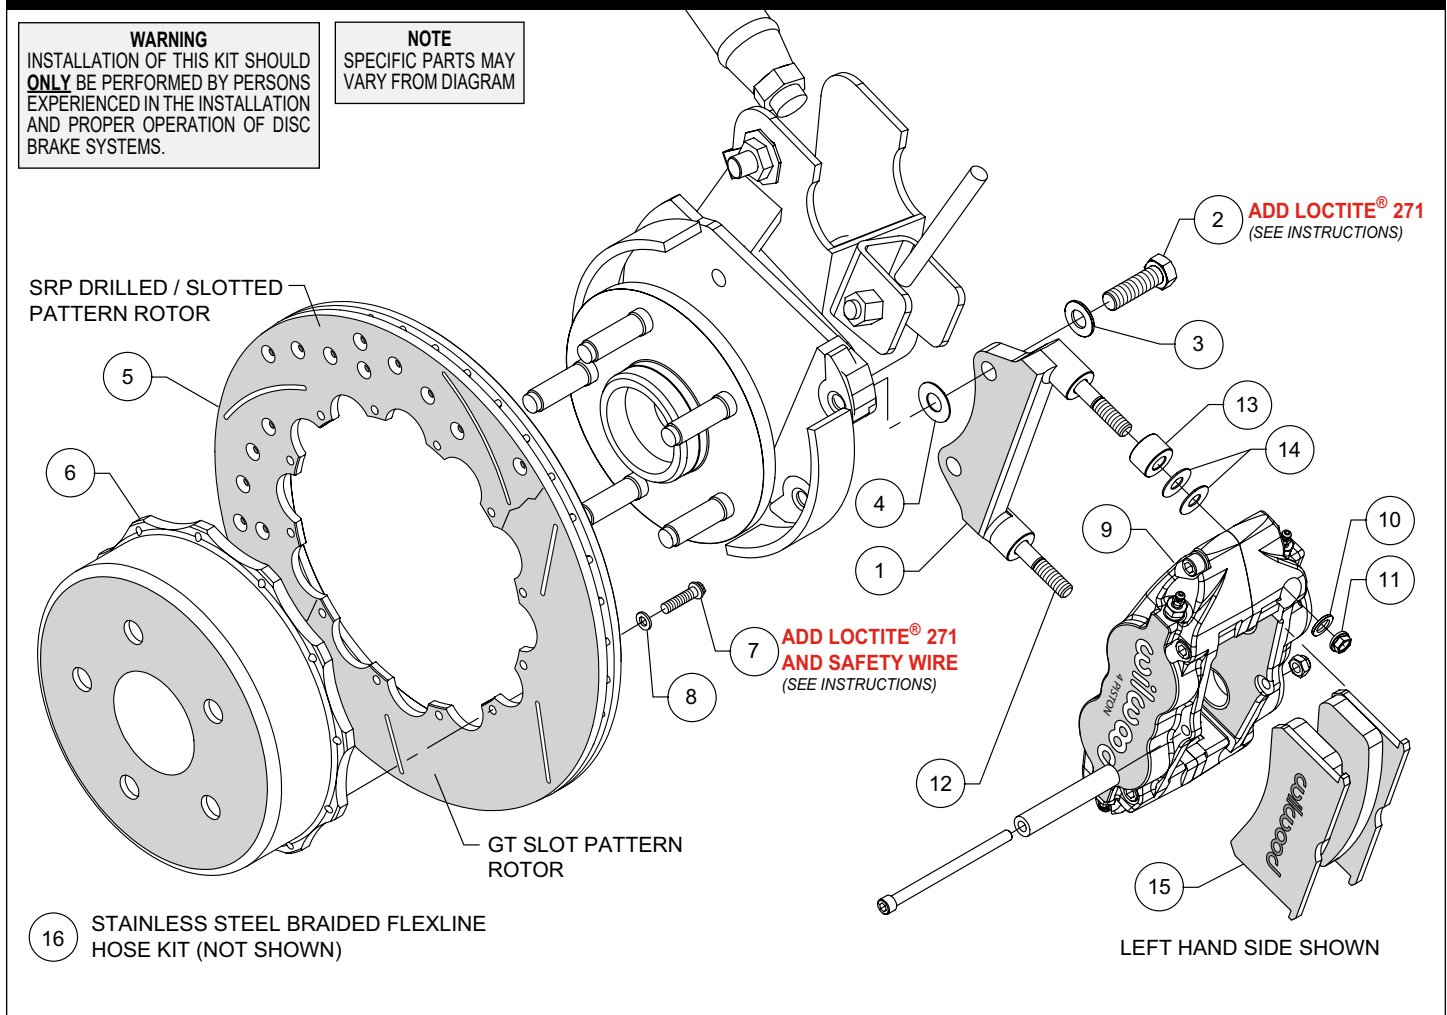
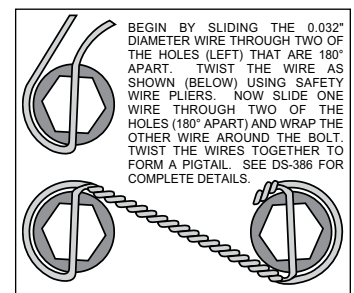

Figure 1. Typical Installation Configuration
Figure 3. Safety Wire Diagram
Assembly Instructions (numbers in parenthesis refer to the parts list and Figure 1 on the preceding pages):
- The caliper mount bracket (1) should initially be installed with clean, dry threads on the mounting bolts. Orient the bracket as shown in Figure 1, and install using mount bolts (2) and washers (3). Initially place one .033" thick shim (4) on each bolt between the bracket and upright, Figure 1. Temporarily tighten the mounting bolts. **NOTE:** The bracket must fit squarely against the mount bosses on the upright. Inspect for interference from casting irregularities, machining ridges, burrs, etc. Later, after the caliper alignment has been checked, the mount bolts will be secured using red *Loctite*® 271.
- Orient the rotor (5) and the hat (6) as shown in Figure 1 and Photo 2. Attach rotor to hat using bolts (7) and washers (8). Apply red *Loctite*® 271 to the bolt threads and torque to 140 in-lb using a criss-cross pattern. The bolts must be safety wired using standard 0.032 inch diameter stainless steel safety wire as shown in Figure 3. Please refer to Wilwood's data sheet DS-386 (available at www.wilwood.com/Pdf/DataSheets/ds386.pdf) for complete safety wire installation instructions.
- Initially place one spacer (13) and two .035" thick shims (14) on each stud (12) as shown in Figure 1 and Photo 4. Mount the caliper (9) onto the bracket (1) using lock nuts (11) and washers (10), Figure 1. Temporarily tighten the lock nuts and view the rotor through the top opening of the caliper. The rotor should be centered in the caliper, Photo 5. If not, adjust by adding or subtracting shims (4) between the bracket and the mounting bosses. Always use the same amount of shims on each of the two mounting bolts. Once the caliper alignment is correct, remove the bracket mounting bolts one at a time, apply red *Loctite*® 271 to the threads, and torque to 60 ft-lb.
- Remove the caliper center bridge pad retainer bolt, nut, and tube from the caliper. Insert the brake pads (15) into the caliper, with the friction material facing the rotor, as shown in Photo 6. Check that the top of the brake pad is flush with the outside diameter of the rotor, Photo 7. If not, adjust by adding or subtracting shims (14) between the caliper and the bracket. After the caliper pad